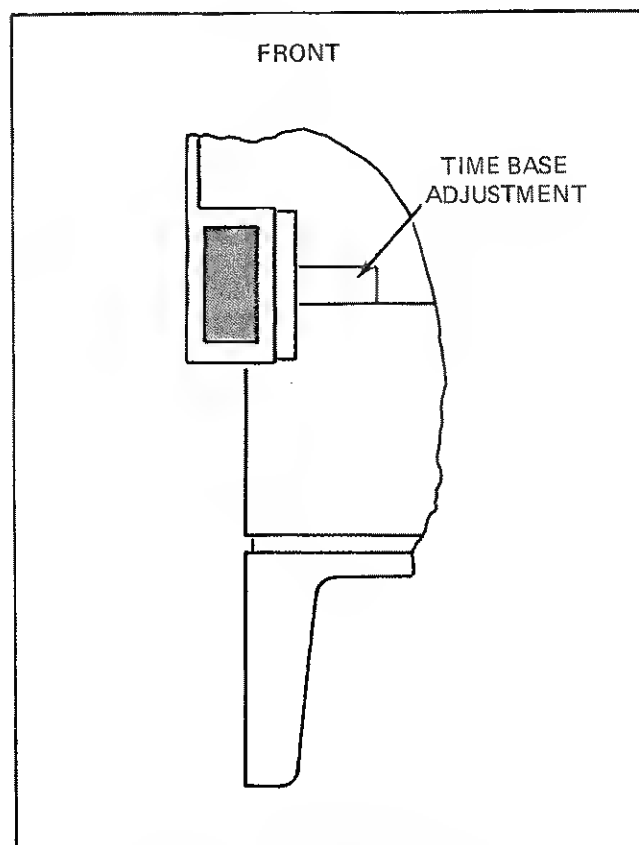

Figure 4-5. Time Base Adjustment
4. If necessary, adjust the time base for a displayed reading of 50000.000 kHz ( $\pm 1$  count). This adjustment is accessed through a hole in the left rear of the bottom case half (see Figure 4-5). Use JFD 5284 (or equivalent) non-ferrous adjustment tool. If installed at the rear of the bottom case half, the bail will have to be removed to allow access.
5. Once optimum adjustment has been attained in Step (4), the RESOLUTION control can be placed to 0.1 Hz; adjustment can now be made toward a displayed reading of 000.0000 kHz. The OVFL LED will be on during this procedure. Since the gate time in this setting is 10s, the effect of each fine adjustment will not be immediately noticed.